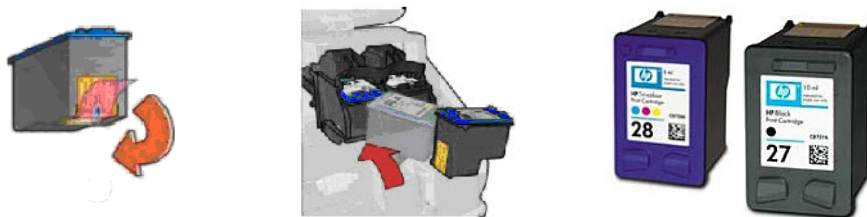

Figure 4.1 Remove Protective Film & Insert Cartridge
2. Remove protective film from cartridge. (see Figure 4.1.)
3. Lift Cartridge cover and insert cartridge into printer. (See Figure 4.1)